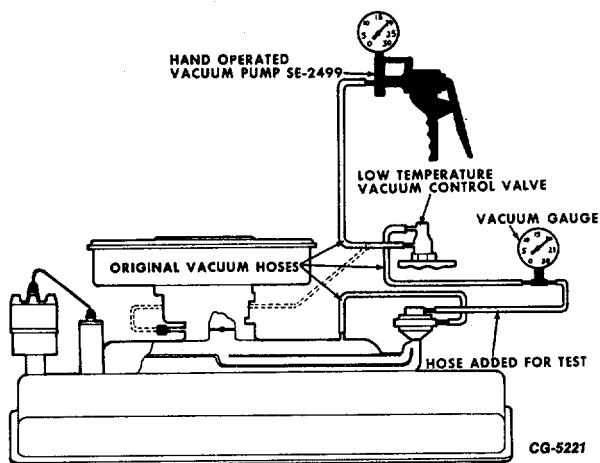

Fig. 52 Low Temperature Vacuum Control Valve and Connecting Hose Test
- With engine shut off and normal operating temperature (EGR low temperature vacuum control valve), any vacuum magnitude applied at carburetor end of vacuum hose should be observed at EGR valve end of hose (Fig. 52).